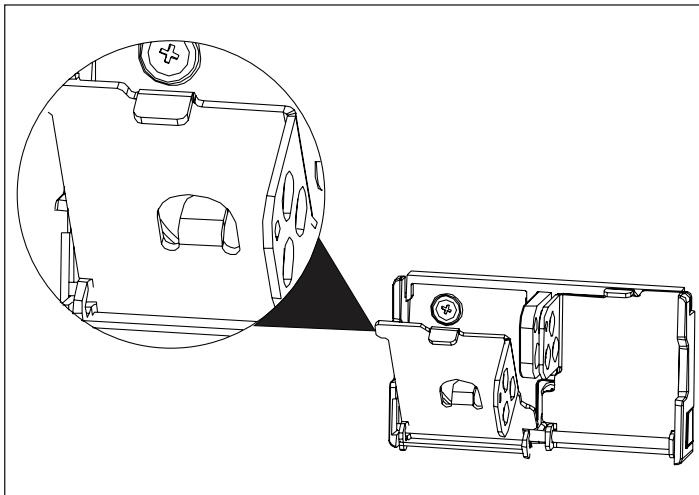

Figure 1. Safe-Off Provision
5. Metal Base and Metal Doors with Safe-Off provision (**Figure 1**)